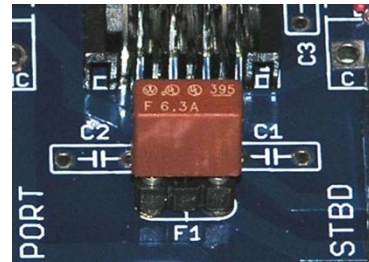

Figure 3.5-2: Fuse Installed in Fuse Socket
7. Once you are sure that there are no short circuits and that the thruster motors show proper readings, you can finish assembling the control box. Place the PCB into the control box, passing the pushbutton switch actuator buttons carefully through the two holes in the front of the box, and secure the PCB into the box using the four small silver screws, as shown in Figure 3.5-2.